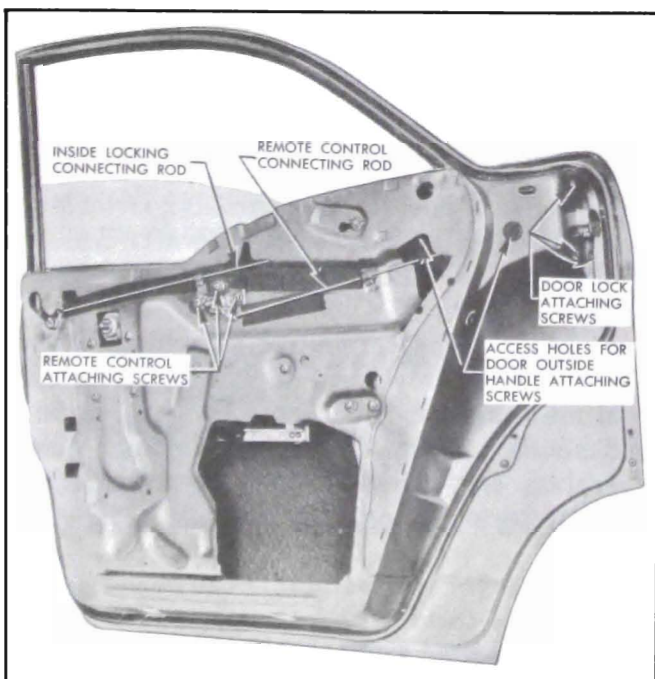

Figure 13-62—Rear Door Locking Mechanism—Model 41
(a) On 41 bodies, through large access hole, disengage spring clips securing remote control and inside locking connecting rods to lock; and detach connecting rods from lock, Figure 13-62.
2. Remove door lock attaching screws at door lock pillar, Figures 13-62 and 13-64. Lower lock between door panels and remove through access hole.
2. Remove remote control attaching screws and remove remote control from connecting rod, Figures 13-62 and 13-64.
b. To remove remote control connecting rod on 41 rear doors, disengage spring clip and detach rod from door lock and clip on inner panel, Figure 13-62.